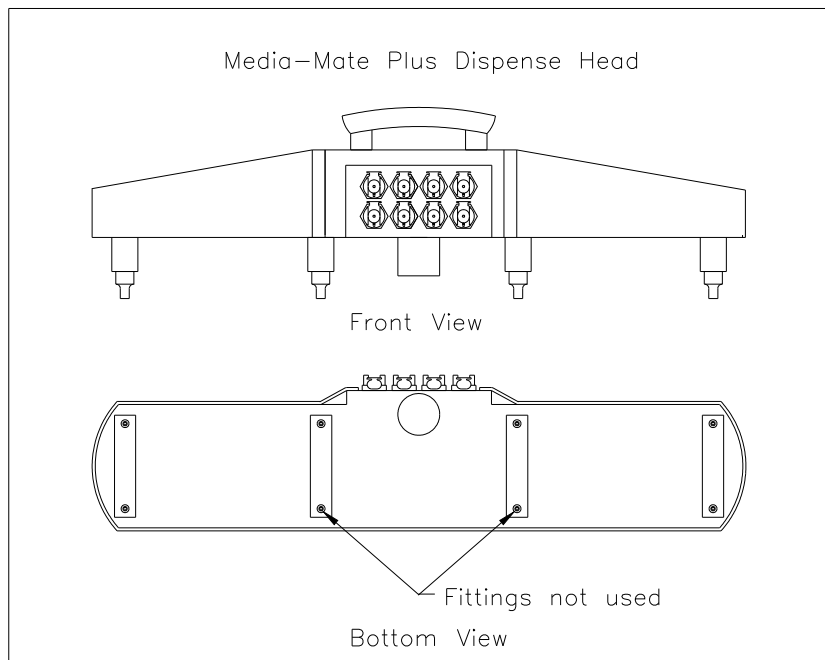

Figure 7-1
The Media-Mate Plus dispense head has been designed to accommodate the THR SR6™, SR8™, SR8-Plus™, Vision® Classic 6™ and Vision® Elite 8™ dissolution test stations and most test stations manufactured by other manufacturers. The dispense head is connected to the dispense harness by quick disconnects which have been identified by the numbers 1 through 7. The dispense head will accommodate six or seven dissolution vessels by enabling or disabling #7 measure vessel (see figures 7.1 and 7.2). The configuration is achieved by connecting the quick disconnects so that the pattern formed matches the test station vessel pattern. Common vessel patterns are shown below:
1. Remove the two fittings labeled “not used” in figure 7-1 below.
1. Remove the two fittings labeled “not used” in figure 7-1 above.